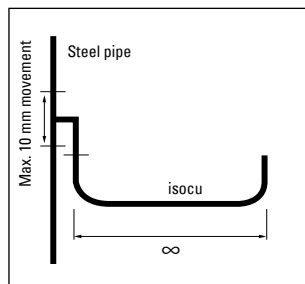

fig. 2
- If parallel branches are used, the isocu pipe must be bent immediately after the connection point. A maximum of 10 mm movement is allowed on the main pipe. See fig. 2.